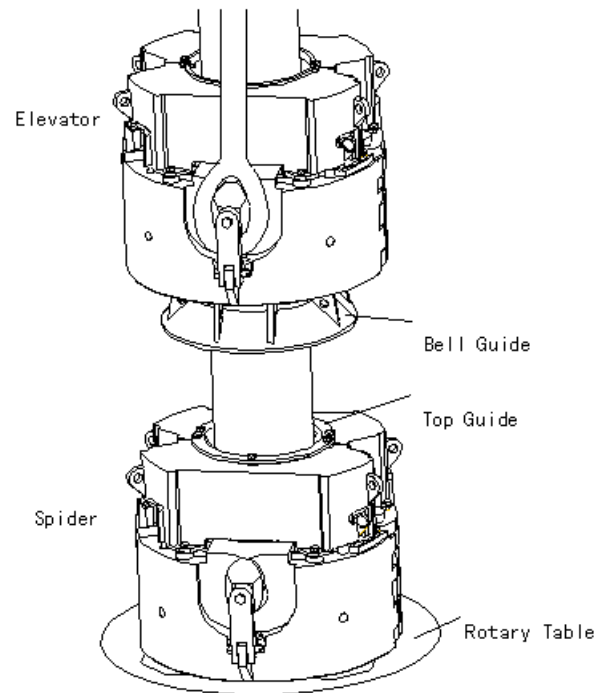

Figure 1-1
The 350 and 500 Ton Elevator/Spider Units are shipped as illustrated in Figure 1-1. A specified set of slip segments and guide rings are shipped installed.
A typical installation is shown in Figures 1-1 and 3-1.
4. Attach links to Elevator as indicated in Figure 1-1, placing link eyes on Elevator hook ears and secure in place.